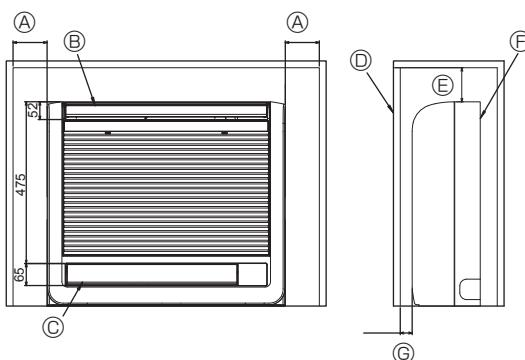

Fig. 6-1
6.1. Embedding the indoor unit in a wall (Fig. 6-1)
- (A) 100 mm or more
- (B) Upper air outlet
- (C) Lower air outlet
- (D) Grating
- (E) 100 mm or more